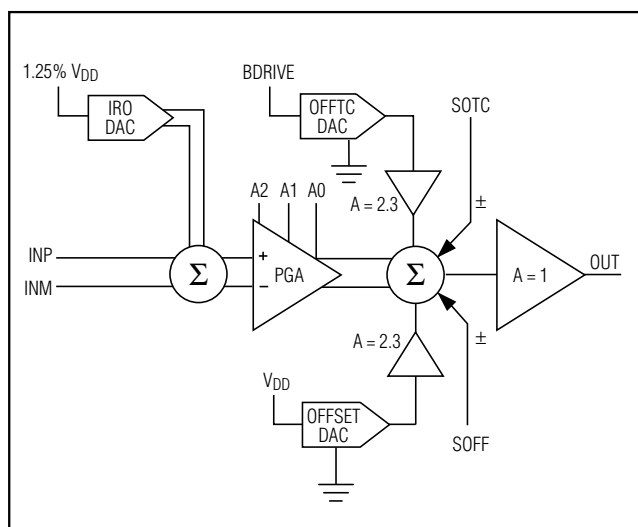

Figure 3. Signal-Path Block Diagram
Compensating offset TC errors involves first measuring the uncompensated offset TC error, then determining what percentage of the temperature-dependent voltage V_{BDRIVE} must be added to the output summing junction to correct the error. Use the offset TC DAC to adjust the amount of V_{BDRIVE} voltage that is added to the output summing junction (Figure 3).
- Differential to single-ended output buffer with rail-to-rail output (Figure 3)